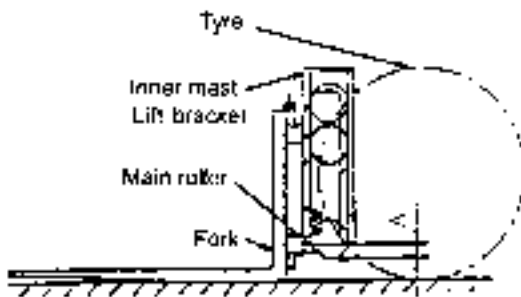
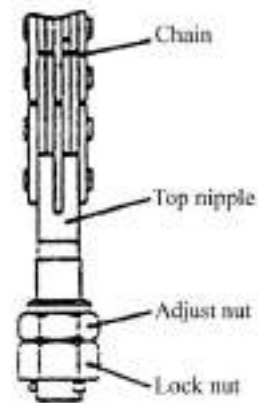
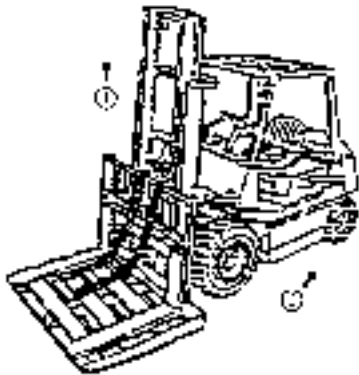

Fig.8-5
Fig.8-6
Fig.8-7
(1) Let the truck parking on the horizontal ground and make the mast vertical. See it as Fig.8-5.
(2) Let the bottom of the fork contact with the ground. Adjust the adjusting nut for the end nipple of the upper chain and make a distance A between the main roller and the carriage. A:20~34mm.
(3) Make the fork down to the ground and tilt backward fully. Adjust the adjusting nut for the end nipple of the upper chain and make the two chains' tightness be equal. (Fig.8-6)
(1) Fork a tray on the fork and let the truck parking on the horizontal ground. (Fig.8-7)
(2) Make the fork and the tray down to the ground.
(3) Disassemble the end nipple of the upper chain and take the chain down from the sheave. (Fig.8-6)
(4) Lift the inner mast. (See Fig.8-7①)
(5) Made the truck back-up if the carriage is fully separated from the outer mast. (See Fig.8-7②)
(6) Replace the main rollers.